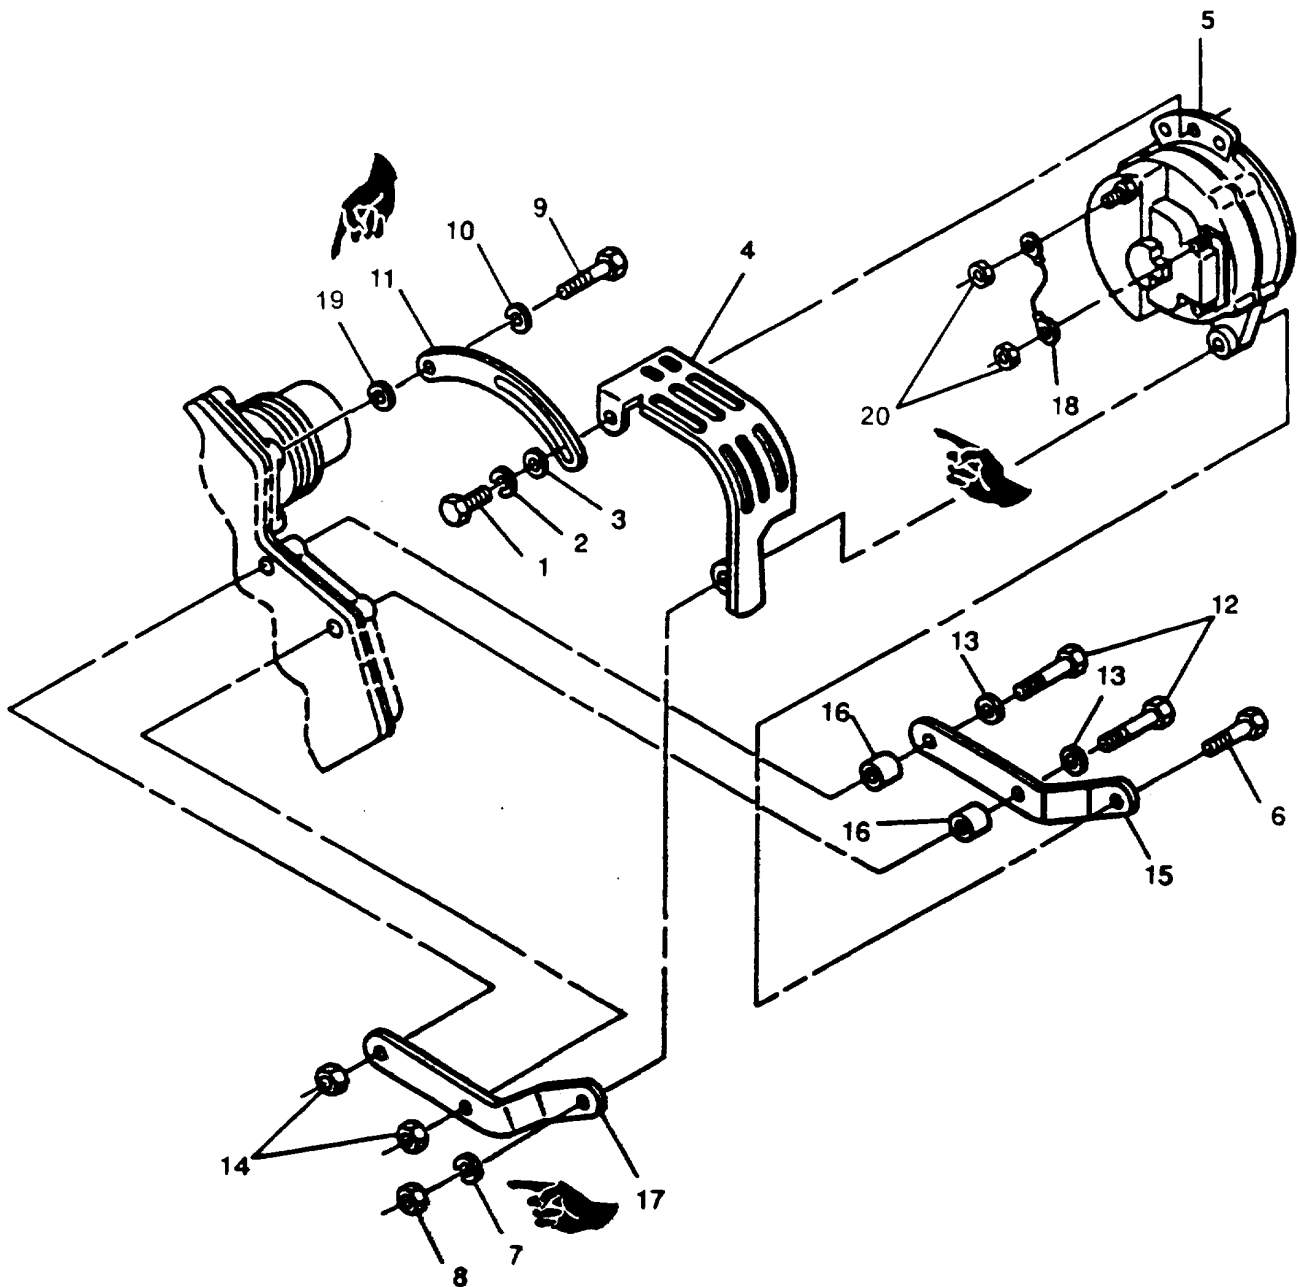

FIGURE 3-5. Battery Charging Alternator and Mounting Brackets
- c. Remove capscrew (1, FIGURE 3-5), lockwasher (2), and washer (3); securing bracket (4) and battery charging alternator (5). Discard lockwasher (2).
- d. Support weight of battery charging alternator and remove capscrew (6), lockwasher (7), and nut (8); securing bracket (4) and alternator (5). Remove bracket (4) and alternator (5). Discard lockwasher (7).
- e. If necessary, remove capscrew (9), washer (19), and lockwasher (10) securing adjusting strap (11) to water pump mounting hole. Remove adjusting strap. Discard lockwasher (10).
- f. If necessary, remove two capscrews (12), washers (13), spacers (16), and nuts (14) securing mounting brackets (15 and 17). Remove brackets (15 and 17).
- g. If necessary, loosen and remove nuts (20) from terminals POS plus OUTPUT and SEN. Remove jumper wire (18).
- g. If damaged, replace retainer (21) in rear housing (20).
- h. Position rear housing (20) over slip rings of rotor assembly (29) with front and rear housing bolt holes aligned and stator leads extending through openings at top of rear housing (20).
- i. Install through bolts (19) and tighten evenly 50 to 60 in-lbs (5.65 to 6.78 Nm).
- j. If necessary, remove through bolts (19) and (20) and stator (22) to align housings as match marked on disassembly. Reinstall bolts and torque evenly 50 to 60 in-lbs (5.65 to 6.78 Nm).
- k. Insert strap (14) of rectifier bridge (18) through slot in diode-trio (17) body. Bend strap (14) over B+ terminal and secure with cone washer (13) and nut (12).
- l. Apply thin film of heat sink compound (5202217) to back of rectifier bridge (18) and mating area of rear housing (20).
- m. Install diode-trio (17) and rectifier bridge (18) on rear housing (20) with bolts (16) and connect stator leads with screws (15). Remove tags.
- n. Install voltage regulator (11) to rear housing (20) with insulating washers (10) and bolts (9).
- o. Install brush assembly (8) and strap (7) with nuts (6) and washer (33).
- p. Position felt gasket (5) in back cover (4) and install back cover on rear housing (20) with bolts (3).
- q. Install terminal washers (2), terminal nuts (1), and jumper (18, FIGURE 3-5).
- (1) Mount battery charging alternator on test fixture capable of providing 5000 alternator rpm.
- a. If removed, install jumper wire (18, FIGURE 3-5) and nuts (20).
- b. If removed, position mounting brackets (15 and 17) on timing gear cover mounting holes; secure with two capscrews (12), washers (13), spacers (16), and nuts (14).
- c. If removed, position adjusting strap (11) on water pump mounting hole; secure with capscrew (9), washer (19), and new lockwasher (10).
- d. Position battery charging alternator (5) and bracket (4) between mounting brackets (15 and 17) and secure with capscrew (6), new lockwasher (7), and nut (8). Do not tighten.
- e. Secure battery charging alternator (5) and bracket (4) to adjusting strap (11) with capscrew (1), new lockwasher (2), and washer (3). Do not tighten.